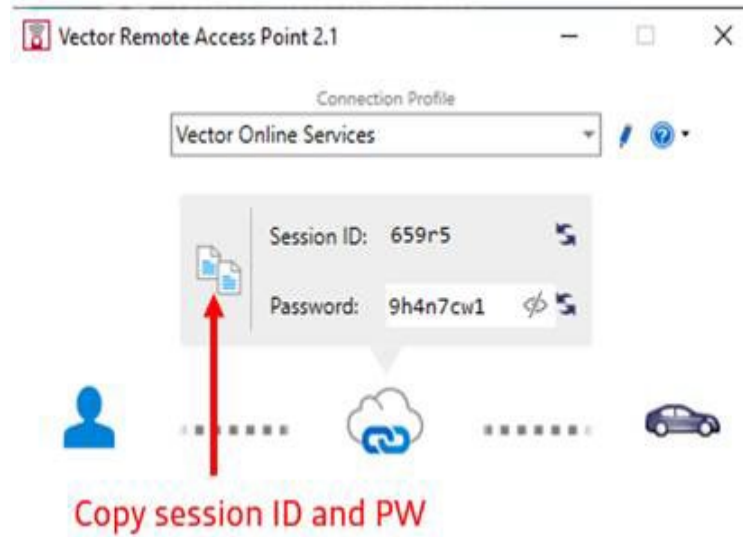

Figure 4: Use the copy button (red arrow) to copy the Session ID and PW.
3. Copy/paste the Vector session ID and PW into teams chat window (red arrow figure 4).